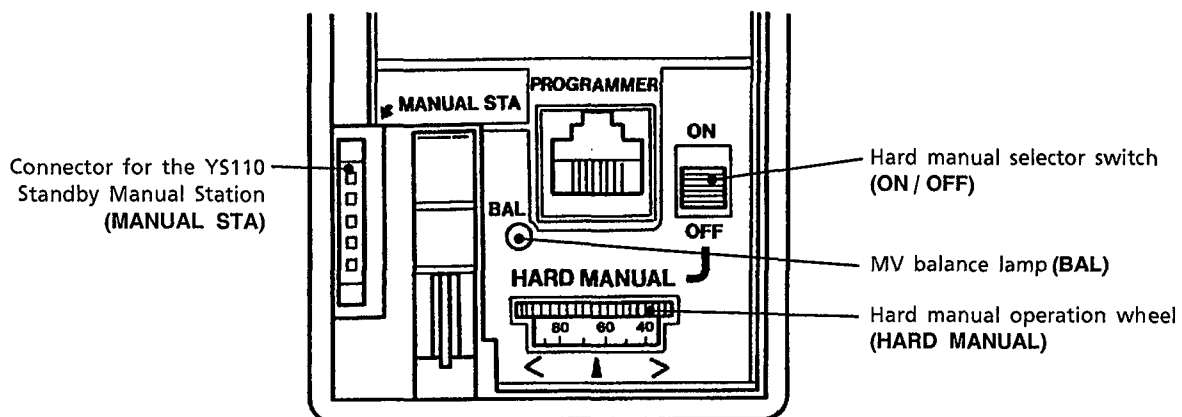

Figure 7.2 Hard Manual Operation
You can find the hard manual operation part (manual output manipulated by analog circuitry) on the internal panel by swinging up the front panel (see Figure 7.2).
- ① Swing up the front panel.
- ② Connect the YS110 Standby Manual Station to the connector for the Standby Manual Station (see Figure 7.2).
- ③ Enable MV operation using the YS110 Standby Manual Station.
- ④ Remove the internal unit.
- ⑤ Connect YS110 Standby Manual Station. The YS110 Standby Manual Station is operated with the external power supply when it is connected to the connector at the rear.